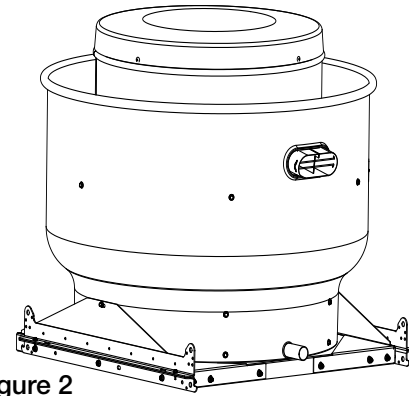

Figure 2
1. If fan was ordered as factory mounted as shown in Figure 2, skip to step 7. Otherwise, locate the two reinforcing plate assemblies.